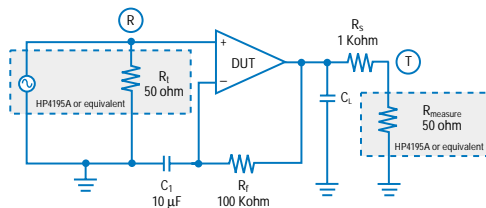

Fig. 1: Circuit To Measure Phase Margin Under Capacitive Loading
One of the internal op amp parameters which effects cap load drive performance is R_{OUT} , output impedance. In fact, an ideal op amp with zero output impedance will be able to drive "any" capacitance with no phase margin (PM) degradation. However, in reality, for almost all cases, R_{OUT} cannot be ignored. By using a network analyzer (HP4195A or equivalent) and the circuit shown in *Fig. 1*, it is possible to measure closed loop performance under capacitive loading: